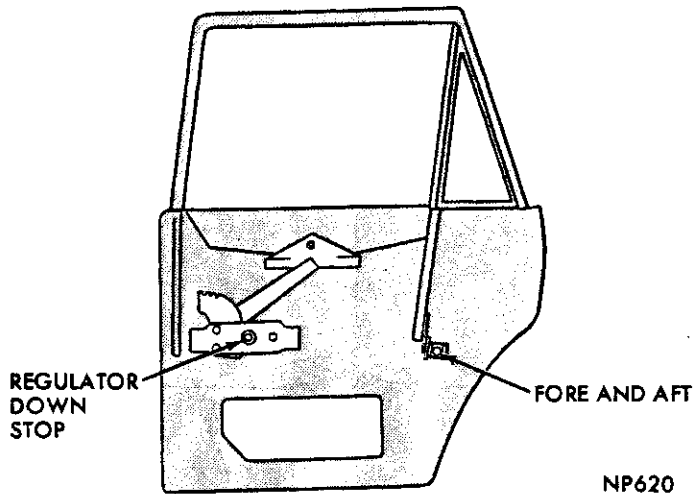

Fig. 33—Rear Door Glass Adjustment—Sedan
The front glass run is not adjustable. The division channel can be adjusted fore or aft, as well as in and out (Fig. 33).
- (1) Loosen window track adjusting nuts (Fig. 33) and remove glass from run channels.